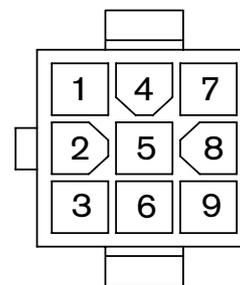

Figure 2: Video Loss Output Relay Connections LTC 5234/90
The LTC 5234/90 Video Distribution Amplifier has four (4) video loss outputs, which are sets of relay contacts that automatically close when there is a loss of video signal. The video loss output connections are made through the 9-pin connector on the back panel of the unit. The contact rating is 1 ampere at a maximum of 40 volts AC or DC. A 9-pin cable is supplied with the unit that mates to the connector, for video loss output connections. See *Figure 2* for pin connections.